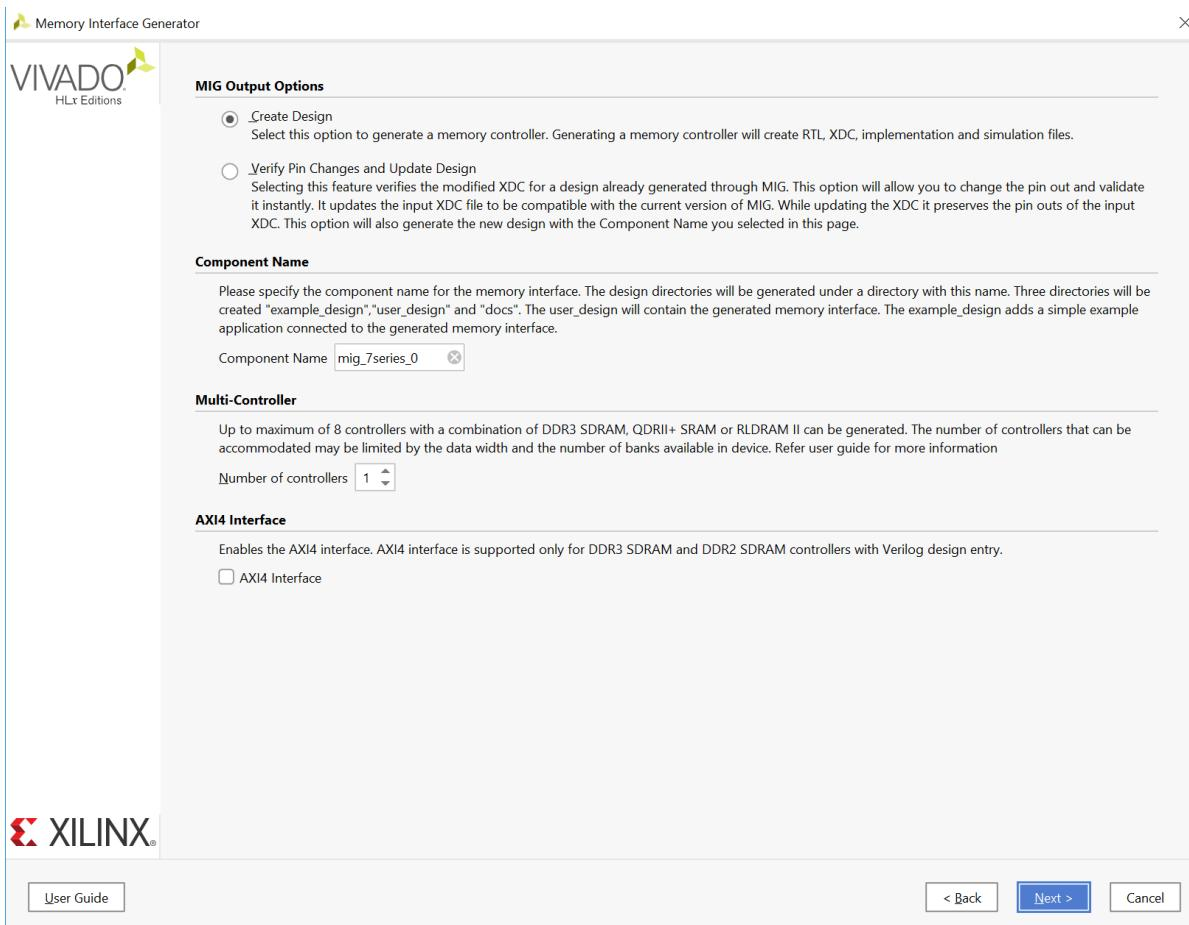

Figure 1-14: MIG Output Options
1. Select the **Create Design** to create a new Memory Controller design. Enter a component name in the **Component Name** field (Figure 1-14).